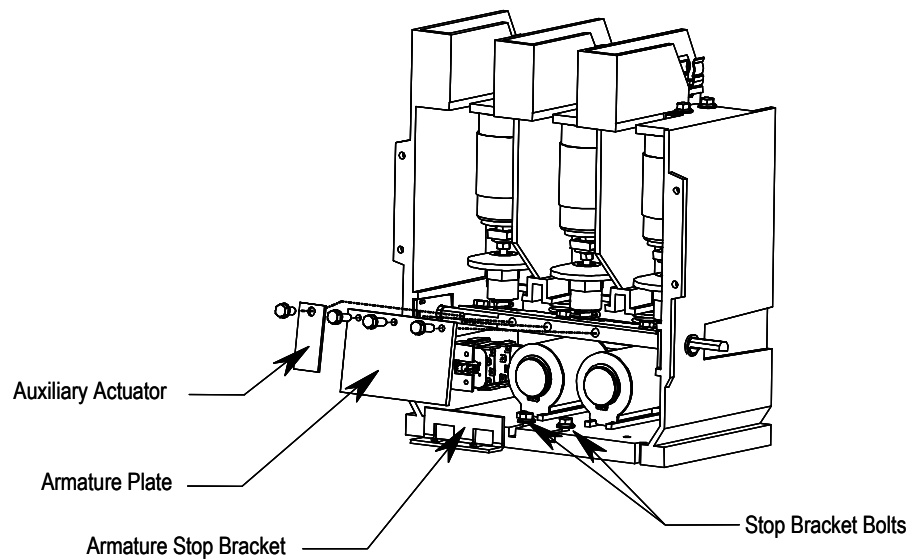

Figure 4.10 – Access to Coils
1. Remove the auxiliary actuator, front stop bracket and armature plate as shown in Figure 4.10. Note: do not remove the bolts which secure the stop bracket, simply loosen them and slide the bracket out (on older contactors, the bolts must be removed from the underside of the contactor housing in order to remove the stop bracket).